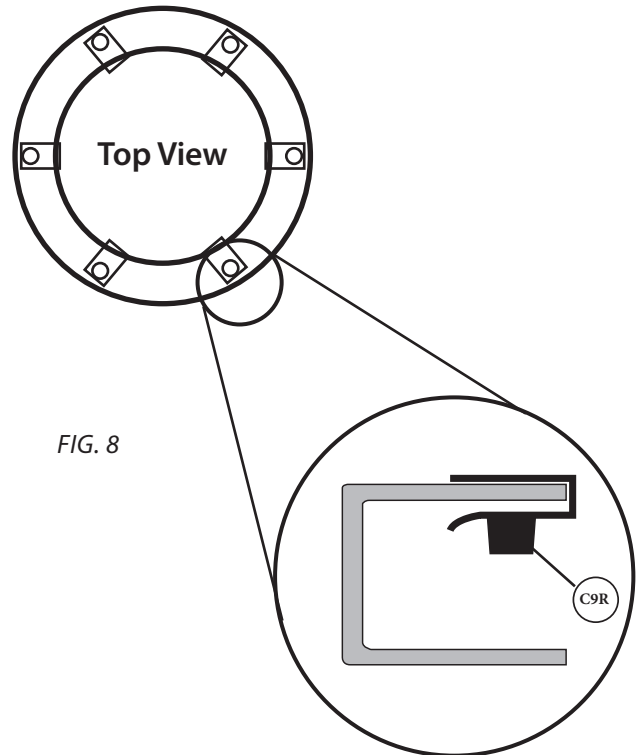

FIG. 8
- 8** Tap the U-Spring Nuts (C9R) onto each of the holes around the circle of the Fan Housing with a ball peen hammer. [FIG. 8]